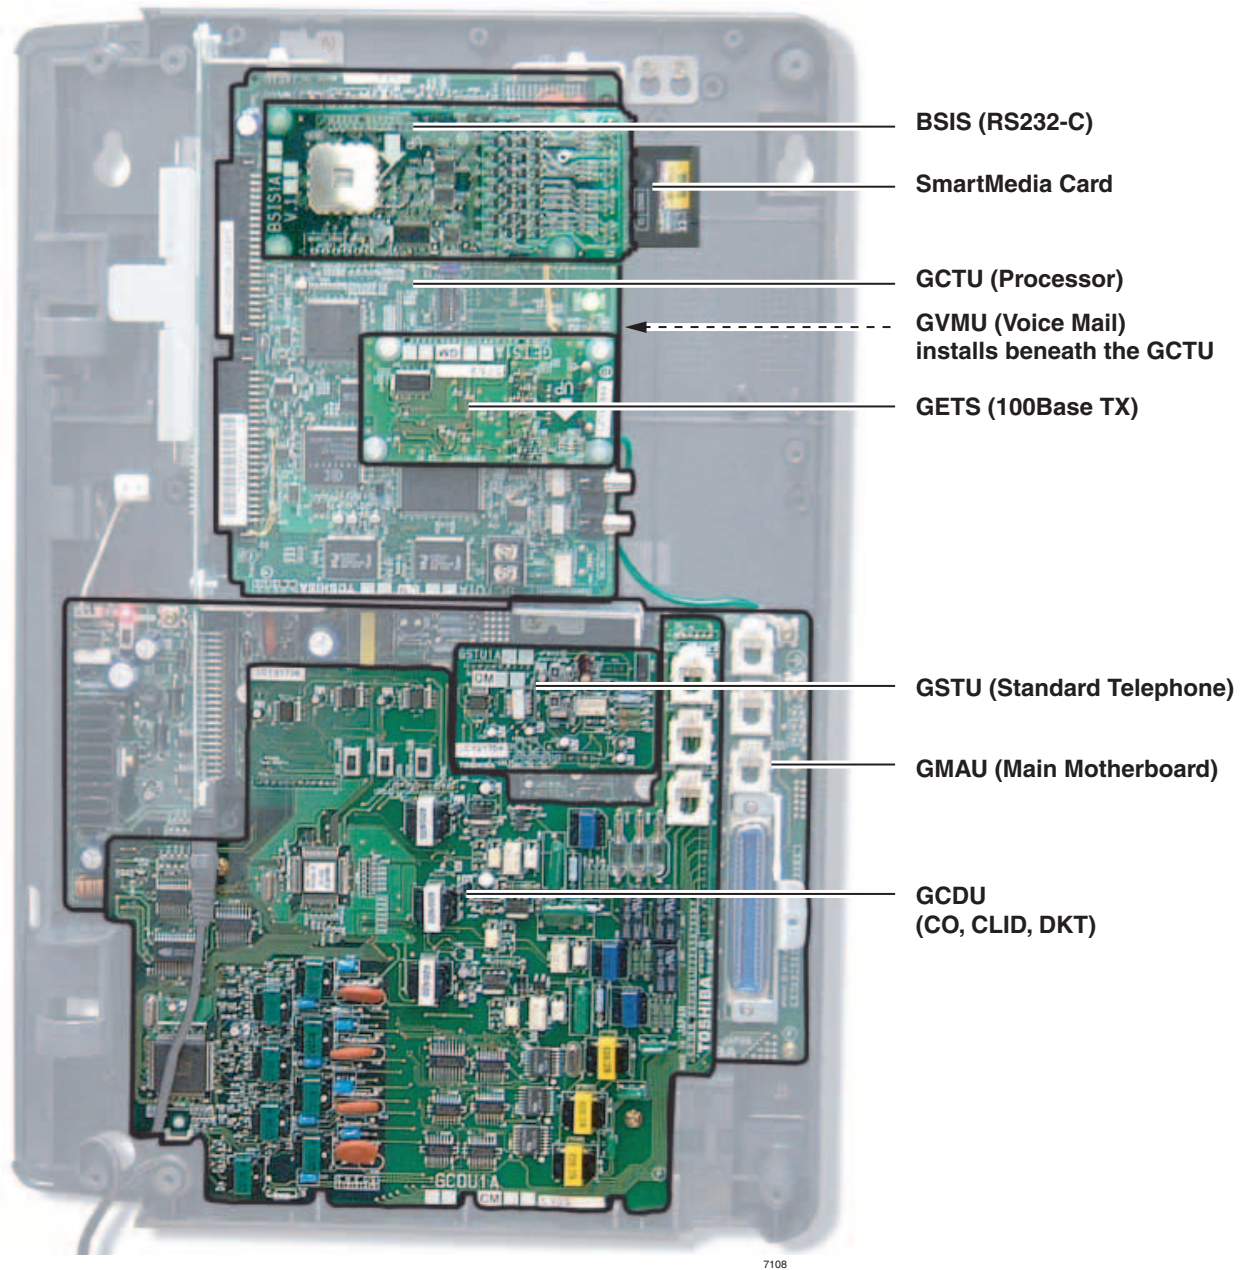

Figure 1-6 CTX28 Interior with PCBs
3. Set P601 battery jumper to ON and install the GCTU1A (processor Figures 1-6 and 1-10).
7. If applicable, install the BSIS1A for SMDR (Figure 1-6).
This describes the CTX28 cabinet PCBs (see Table 1-3 and Figure 1-6.)